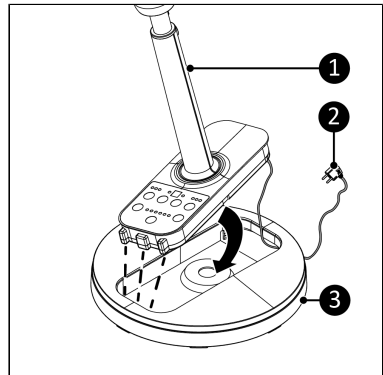

Figure 22.
2. Place the power cable (Figure 22, pos. 2) through the opening in the base (Figure 22, pos. 3).
3. Push the fan (Figure 22, pos. 1) into the opening in the base until it clicks.